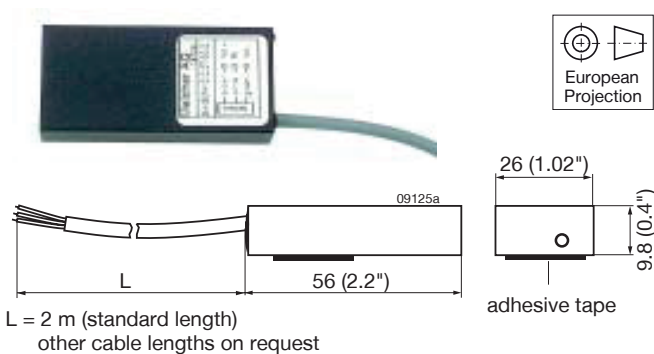

Fig. 51
- Different battery sensors S-KSMH... for using the converter as a battery charger. Different cell characteristics can be selected; see fig. 51, table 27, and *Battery Charging/ Temperature Sensors*.